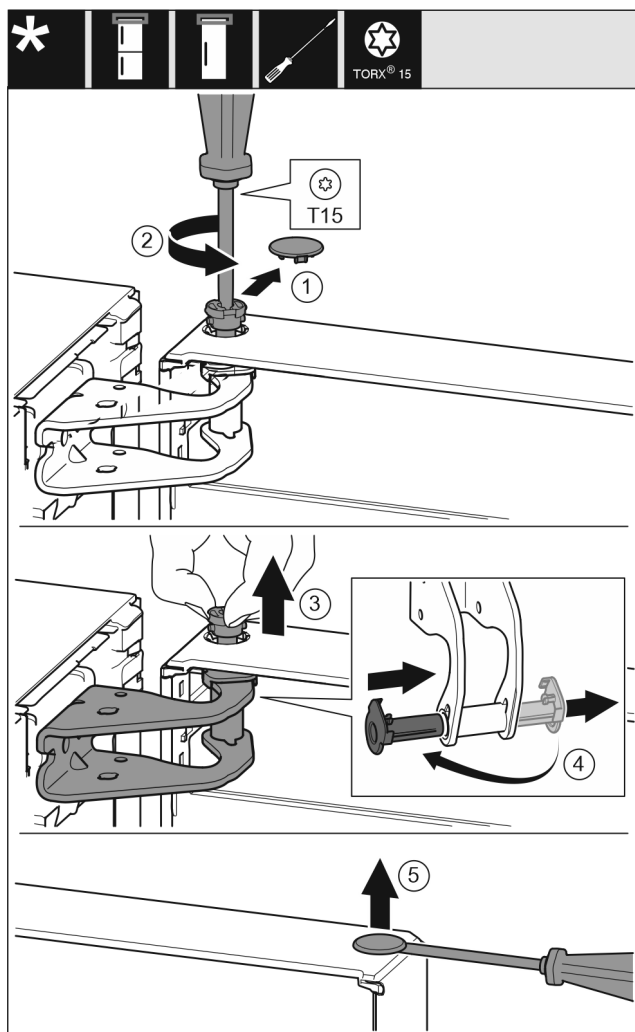

Fig. 11
- ▶ Carefully remove the protective cover. *Fig. 11 (1)*
- ▶ Loosen the bolts slightly with a T15 screwdriver. *Fig. 11 (2)*
- ▶ Hold the door and remove the bolts with your fingers. *Fig. 11 (3)*
- ▶ Pull the bearing bush out of the guide. Insert from the other side and latch into place. *Fig. 11 (4)*
- ▶ Carefully lift the plugs out of the door bearing bush with a slotted screwdriver and remove them. *Fig. 11 (5)*